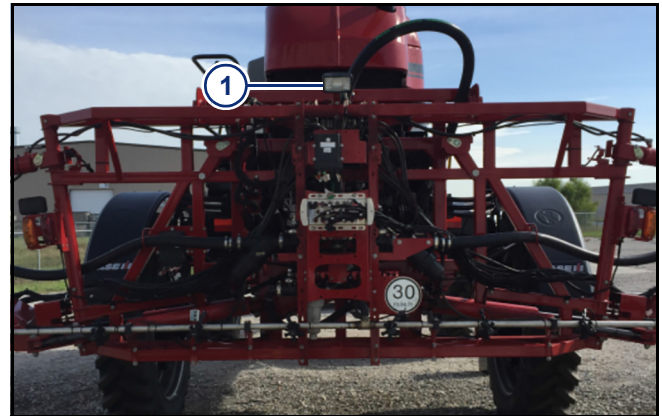

Figure 1
1. **[Figure 1]** - At the back of the machine, locate the Case IH Product Controller II (1) on the center section below the light.